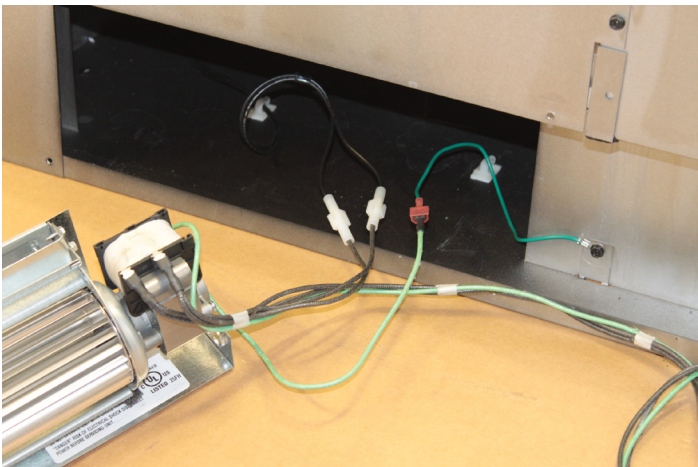

Figure 3
5. Locate the blower wire terminals inside the bottom of the fireplace and make the three connections as shown in Figure 3.